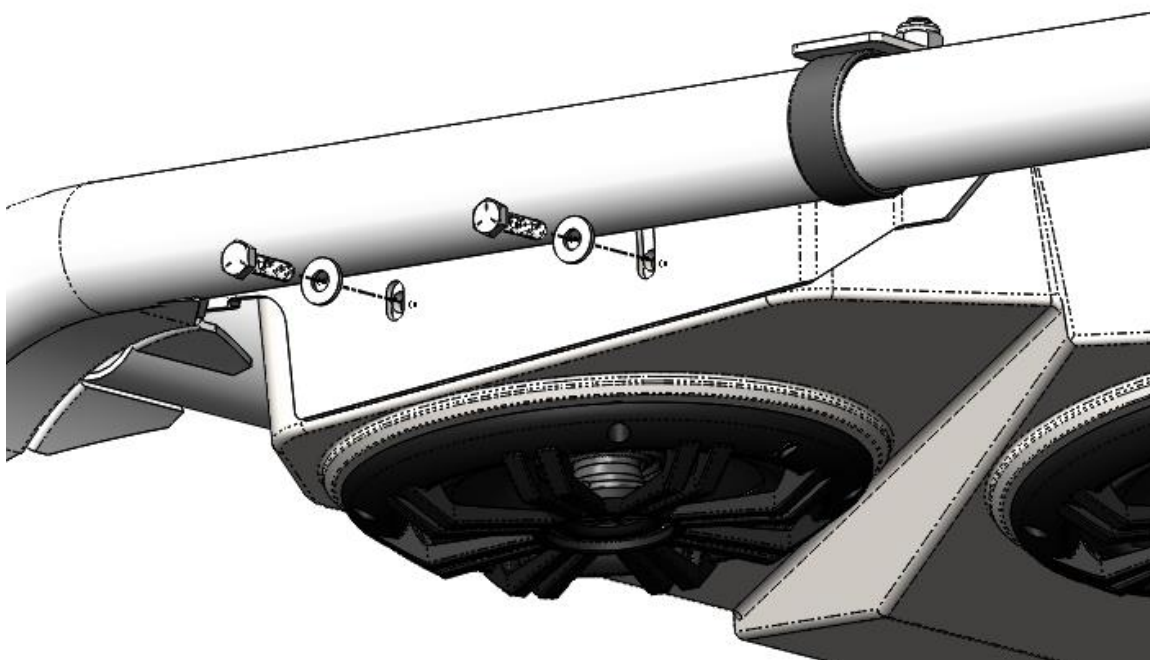
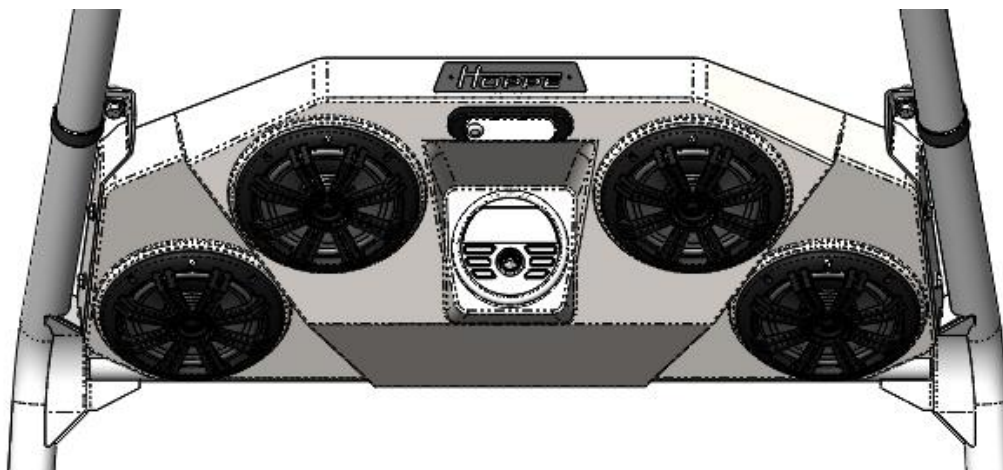

Figure 15: Install the $\frac{1}{4}$ "-20 bolts and washers to mount the Audio Mini to the brackets.
Figure 16: Loosely install the sound system on the mounting brackets.
13. Using an assistant, connect the two mating connectors and hang the *Audio Mini* off-road sound system on the brackets using the supplied $\frac{1}{4}$ "-20 bolts and washers (loosely tightened). **Note: The sound system weighs up to 25 lbs. Since you will have to lift and bolt each end, it is helpful to have an assistant for this step.** **Note: The harness connector will not fit between the frame and the Audio Mini once installed, so it is important to follow this step closely to not repeat work.** See Figure 15 and Figure 16.